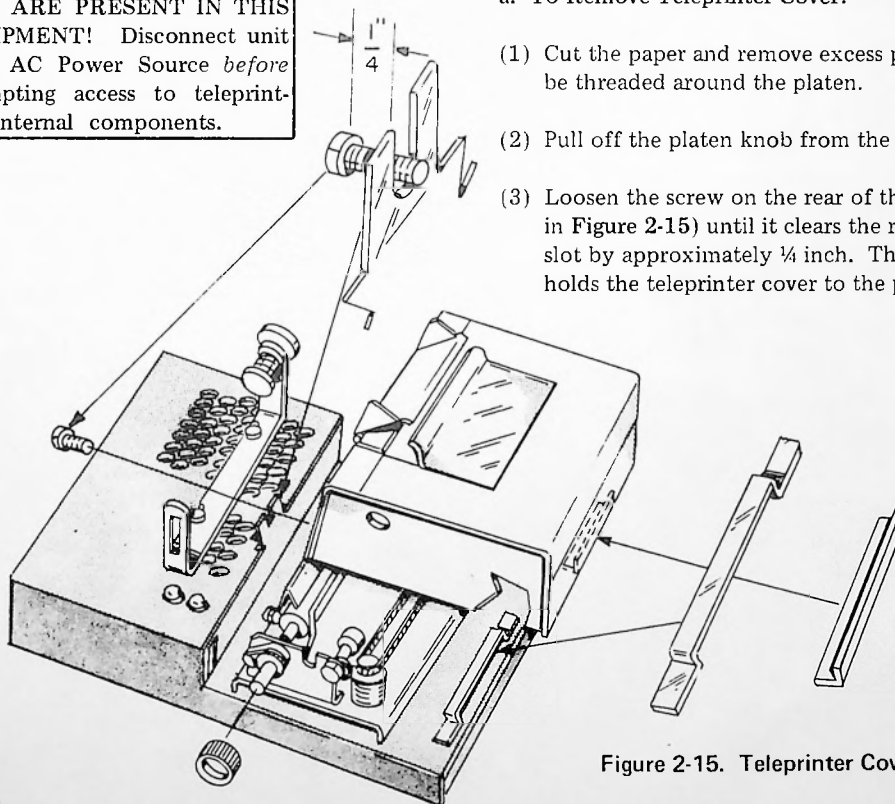

Figure 2-15. Teleprinter Cover Removal
- (1) Cut the paper and remove excess paper which may be threaded around the platen.
- (2) Pull off the platen knob from the platen shaft.
- (3) Loosen the screw on the rear of the cover (shown in Figure 2-15) until it clears the retaining bracket slot by approximately ¼ inch. This single screw holds the teleprinter cover to the printer base.
- (4) Refer to Figure 2-15. Slide the cover forward (toward the front of the machine) slightly to permit the cover mounting lip to disengage from its retainer at the front of the printer base.
- (5) Slowly and carefully lift upward and to the left, removing the teleprinter's cover.
- (6) To Replace Cover: Reverse steps (1) through (5).